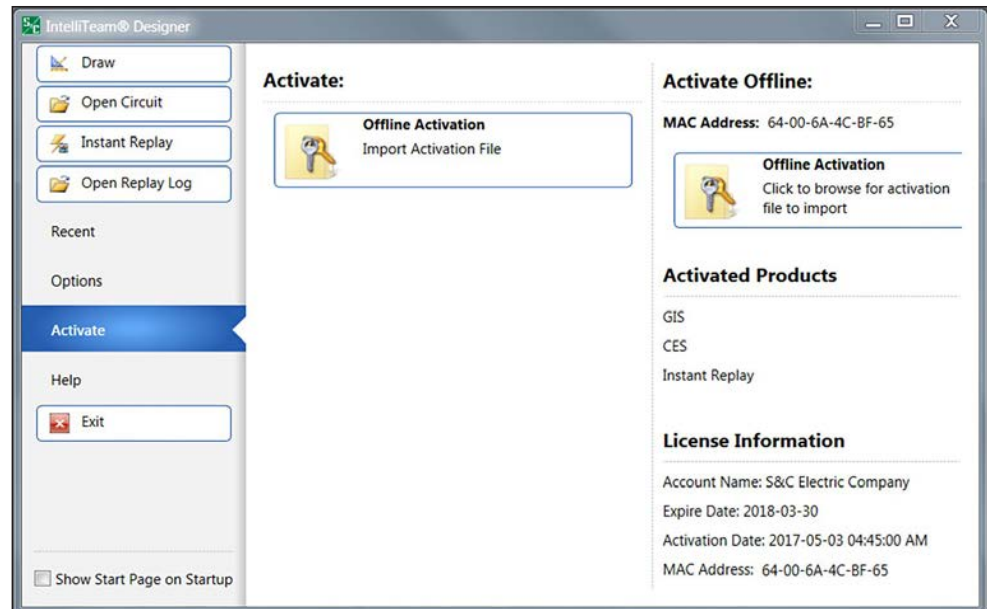

Figure 7. IntelliTeam Designer Start page.
- STEP 2.** Click on the **Offline Activation** button to load the *Activate Offline* screen shown on the right in Figure 7 on page 14.
- STEP 4.** Navigate to the desktop and select the **ActivationFile.xml** entry to activate IntelliTeam Designer. IntelliTeam Designer will restart after the ActivationFile.xml data have been successfully loaded. See Figure 7 on page 14.